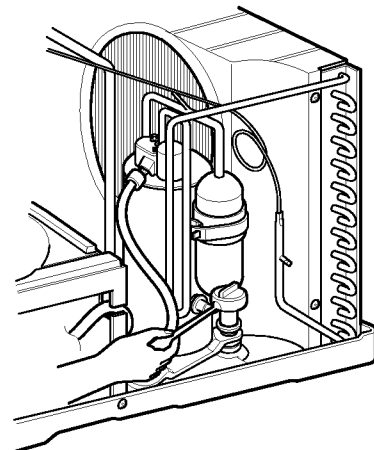

Figure 10
7. Re-install the components by referring to the removed procedure, above. (See figure 10)